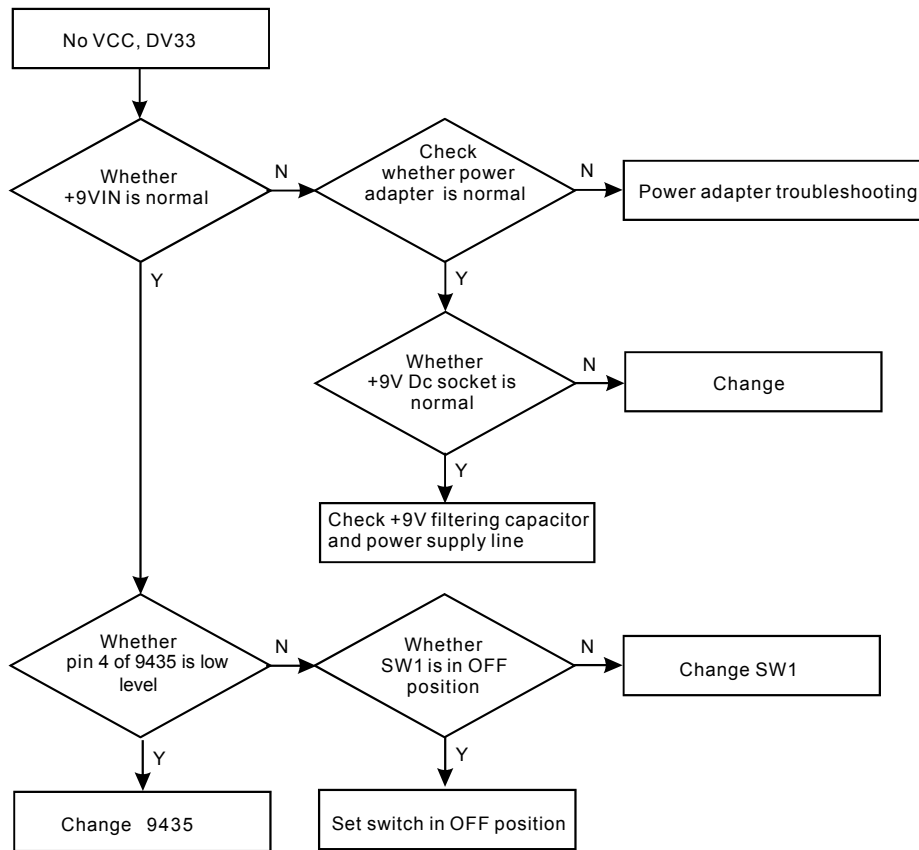

Figure 3.3.1.5 Troubleshooting flow chart for “No VCC, DV33V voltage”
6. Troubleshooting flow chart for “Audio has no output” is shown as in the following figure 3.3.1.6: